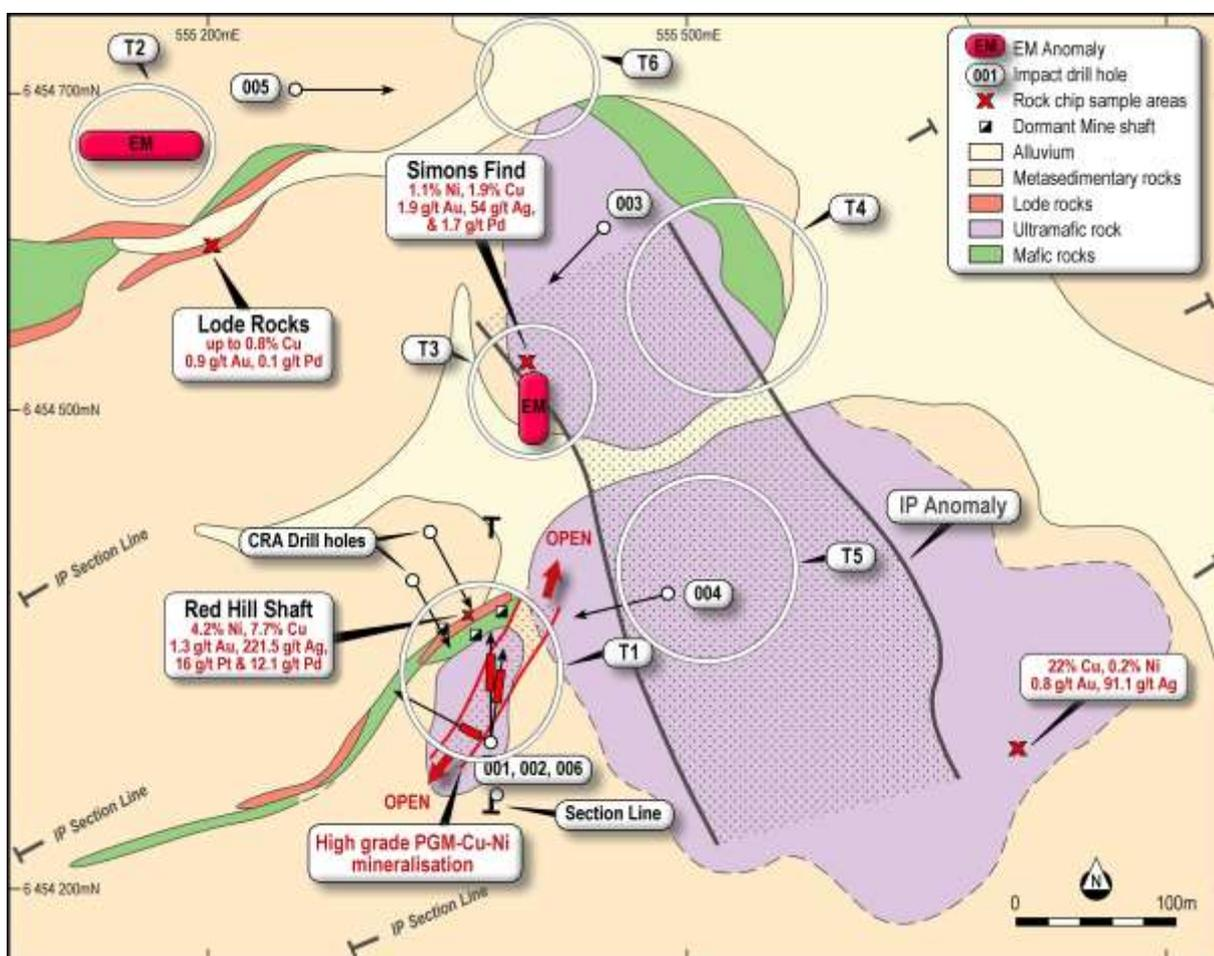

Figure 3. Geology and drill targets at the Red Hill Prospect.
Impact has now identified six targets for further drilling at Red Hill (Targets T1 to T6, Figure 3 and see announcement dated 1st April 2015).
Target T1 contains the newly discovered PGM-copper-nickel mineralisation which is interpreted to dip at a shallow angle to the south, and is close to true width. In addition, the mineralisation may be increasing in width and grade with depth and is in part coincident with an Induced Polarisation (IP) chargeability anomaly identified in a ground geophysical survey (Figures 3 and 4). IP chargeability anomalies may be associated with disseminated sulphides and magnetite.